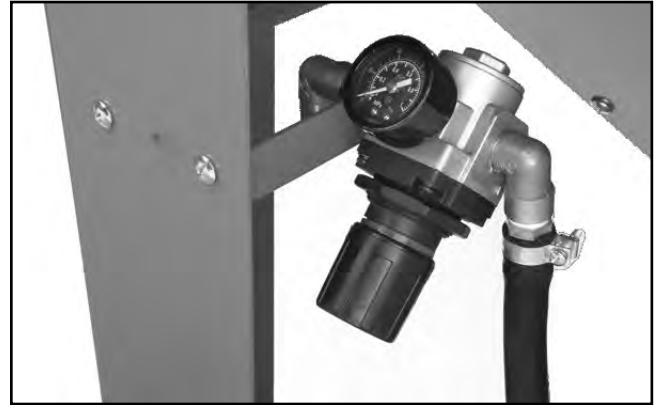

Figure 7. Regulator assembly.
5. Remove lamp box from inside of cabinet, place glass and lamp box onto top of cabinet, and fasten them to cabinet with (6) M6-1 x 12 Phillips head screws.
6. Fasten pressure regulator w/gauge and regulator "L" bracket (see **Figure 7**) to left front leg using (2) M6-1 x 12 Phillips head screws and flange nuts.